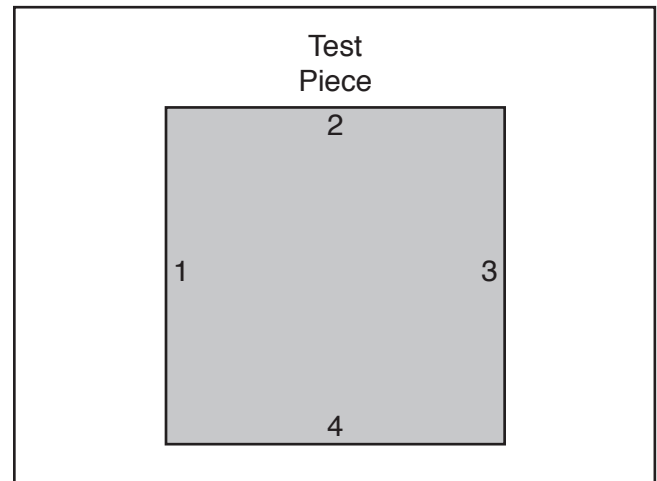

Figure 161. Fence adjustment test piece.
4. Prepare scrap test piece by cutting it to 32" x 32" square, then number all four sides 1–4 (see **Figure 161**).